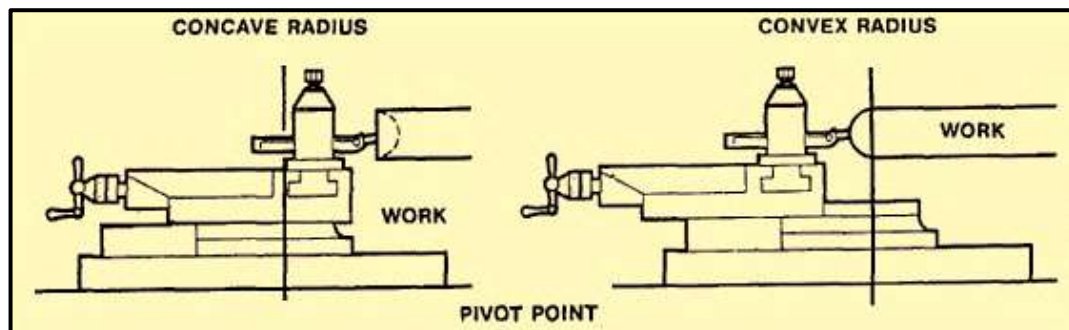

Figure 7-61. Pivots of the compound radius.
**Forming a Radius Using the Compound Rest:** To use the compound rest and tool to pivot and cut the compound rest bolts must be loosened to allow the compound rest to swivel. When using this method, the compound rest and tool are swung from side to side in an arc. The desired radius is formed by feeding the tool in or out with the compound slide. The pivot point is the center swivel point of the compound rest. A concave radius can be turned by positioning the tool in front of the pivot point, while a convex radius can be turned by placing the tool behind the pivot point. Use the micrometer carriage stop to measure precision depths of different radii. (Figure 7-61).